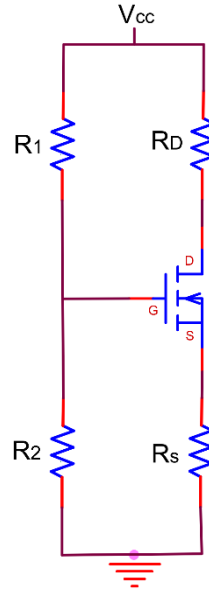

Figure 11.2
1. Construct the circuit in Figure 11.2 using the resistor values calculated in the pre-lab. Measure and record I_D by measuring the voltage across R_D . Measure and record V_{DS} . Compare your measured Q point to the one used in the pre-lab.